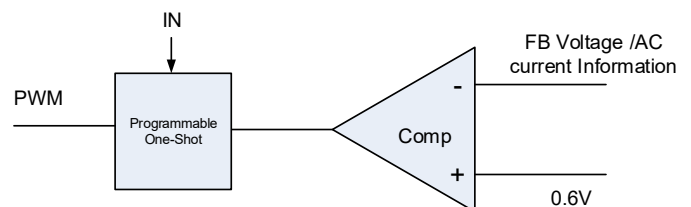

Figure 2. Simplified Control Schematic of AOZ2387QI
The simplified control schematic is shown in Figure 2. The high-side switch on-time is determined solely by an one-shot whose pulse width can be programmed by one external resistor and is inversely proportional to input voltage (IN). The one-shot is triggered when the internal 0.6V is higher than the combined information of FB voltage and the AC current information of inductor, which is processed and obtained through the sensed low-side MOSFET current once it turns-on. The added AC current information can help the stability of constant-on time control even with pure ceramic output capacitors, which have very low ESR. The AC current information has no DC offset, which does not cause offset with output load change, which is fundamentally different from other V^2 constant-on time control schemes.